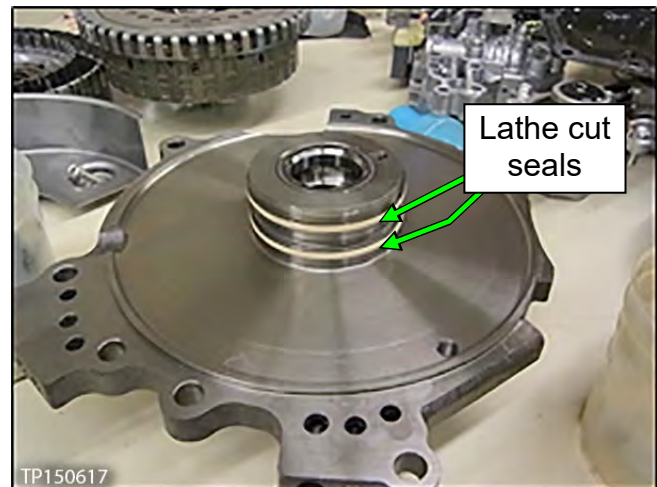

Figure 71
7. Apply petroleum jelly or equivalent to the oil pump cover's lathe cut seals (see Figure 71).